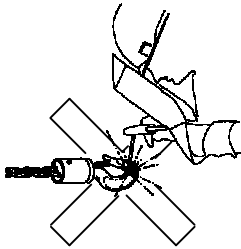

Fig. 1
- Welding on hook and wire rope is strictly forbidden. The wire rope must never be used as a ground connection during welding (Fig. 1).